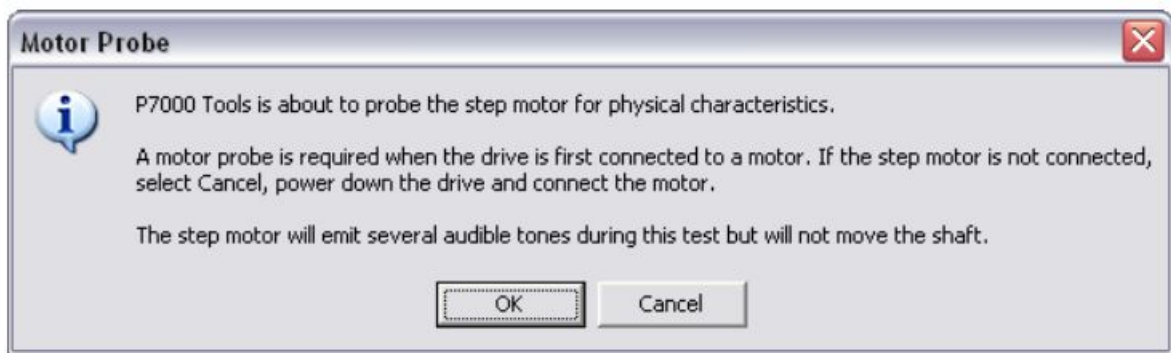

Figure 14. Drive and Motor Initialization
9. When the configuration data is downloaded, the drive performs the initialization process with the motor as shown in Figure 14. Click OK.